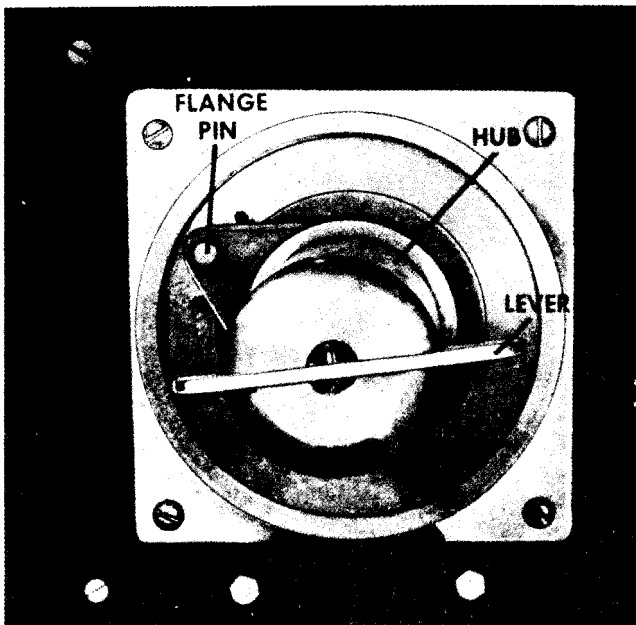

Figure 5. Hub Assembly
- c. Place lever of hub assembly (Fig. 5) in vertical position.